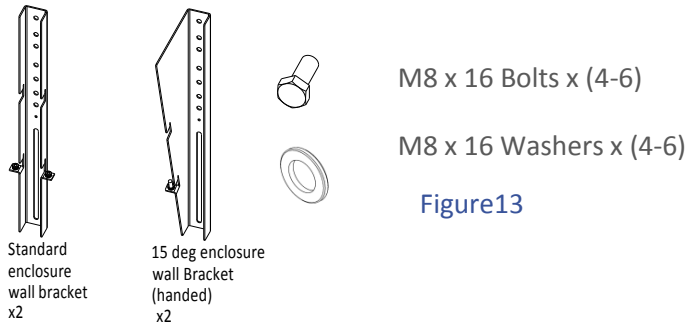

Figure13
STEP 18: Check all apparatus for the installation is present and correct (Figure13) – Depending on your setup you will have either **(2)** flat or **(2)** 15 degree wall brackets.